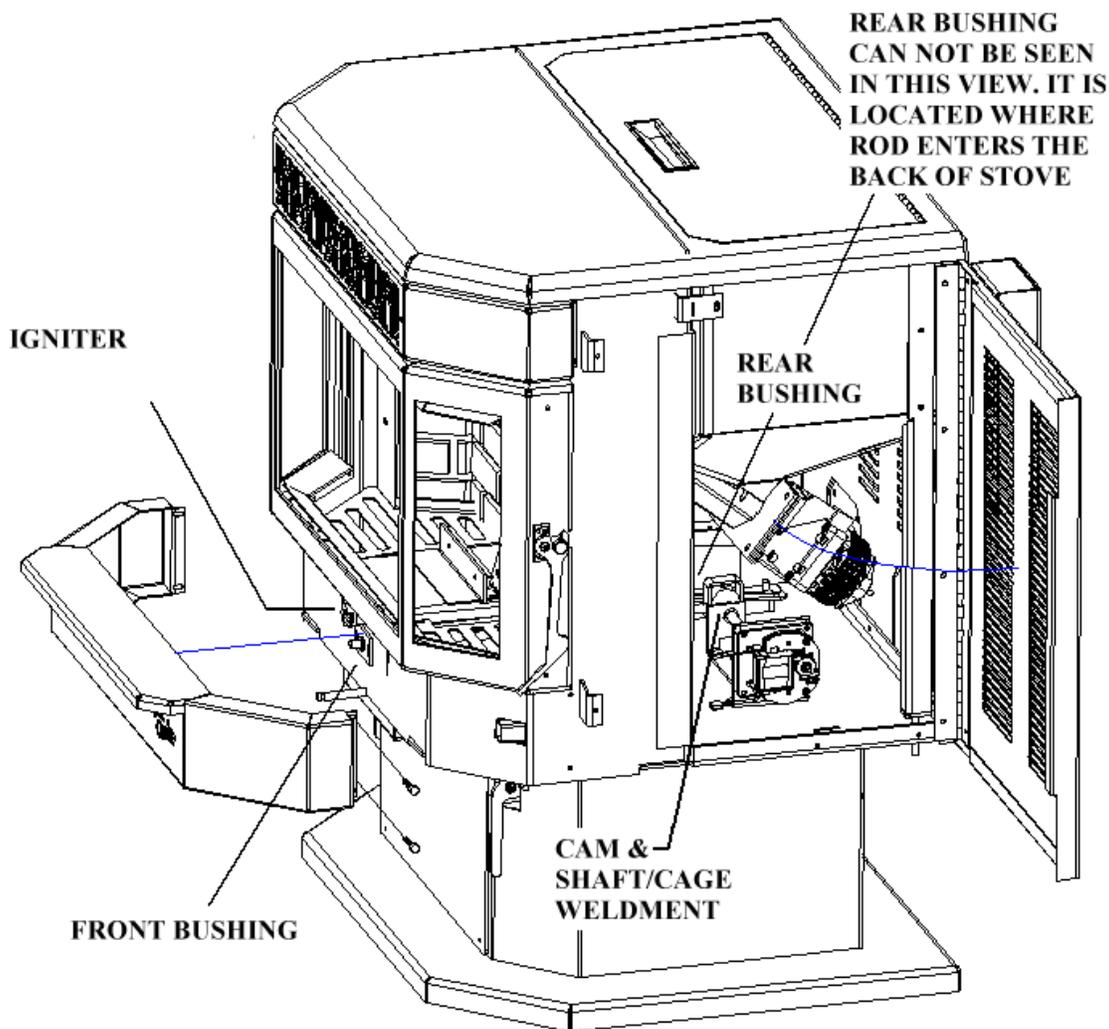

Figure 11
5. The Versa Grate System needs to be lubricated once a year with some High Temp Anti Seize to prevent the parts from “squealing” add some Anti-Seize to the Cam and Rod at both bushings. To gain access to the Versa Grate System in the Afton Bay open the right side panel when facing the stove. To locate the Rear Bushing assembly, follow the rod from the Shaft/Cage Weldment towards the front of the stove. The front bushing is located below the igniter in the front of the stove. Remove the ash lip cover as shown in figure 11.